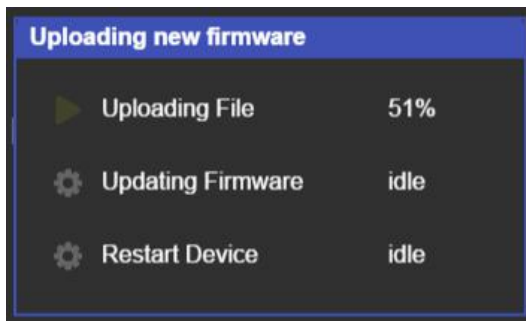

Figure 27: The Firmware Upgrade Process Popup
6. After clicking OK, the progress message shown in Figure 27 appears.